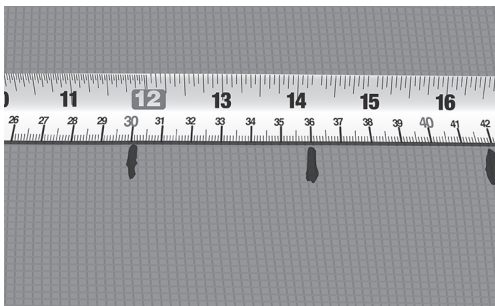

Fig. 5. Mark the C-C distance on the floor
8. Mark the calculated C-C distance on the floor surface (Fig. 5).